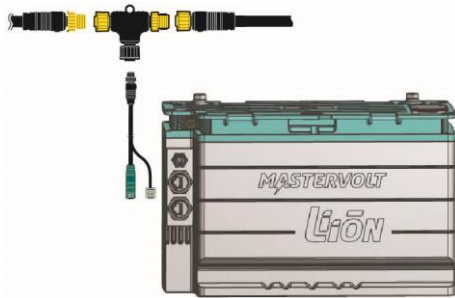

Figure 6: CZone drop cable
- CZone: connect the drop cable. On the battery side, plug the connectors into either of the communication ports. See Figure 6 on page 13.